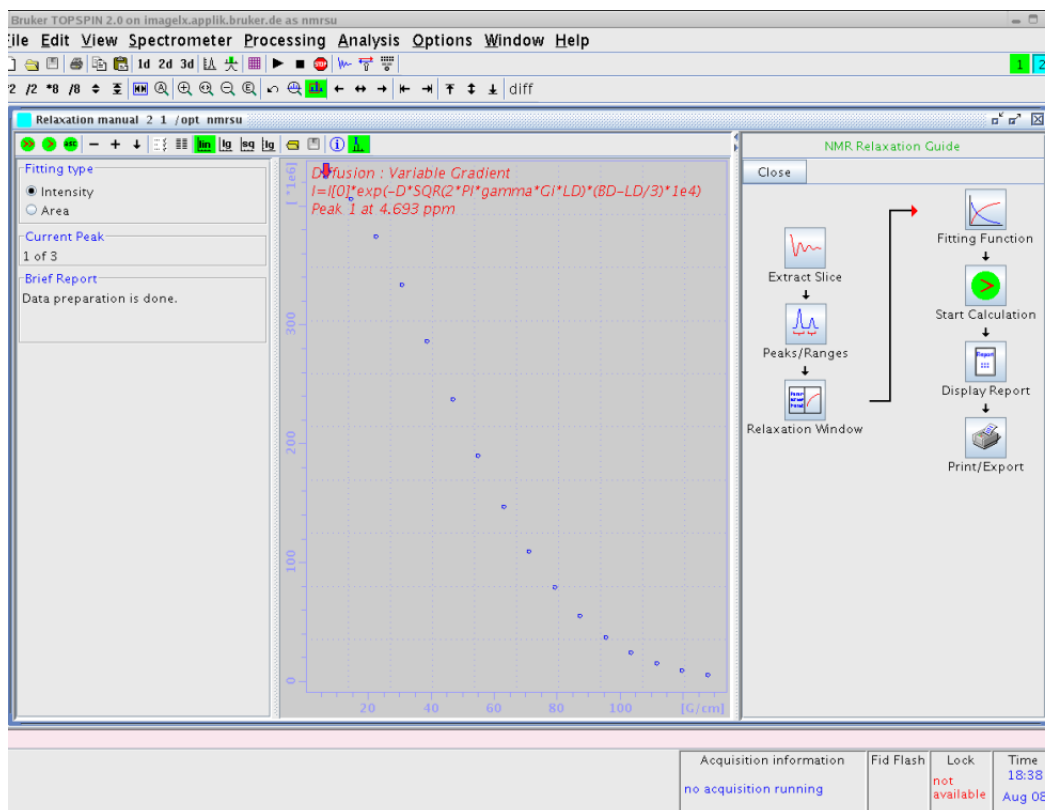

Figure 3.13 Relaxation Window with Data Points
9. Click the **Relaxation Window** button. The relaxation window will open showing the automatically selected data points, as shown in Figure 3.13. Automatic peak selection only takes place when this window is opened the first time in a data set. If data are already present, the data will be preserved.